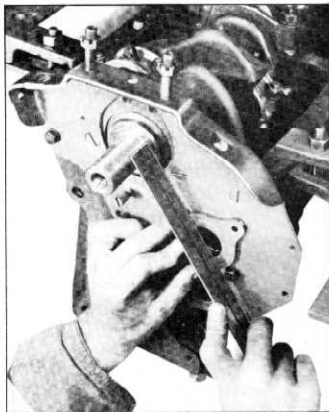

Fig. 54—Checking Timing Gear Alignment
- Lay a straight edge against the thrust plate and over to the gear shoulder on the crankshaft. Check to see whether their two surfaces are flush (fig. 54).